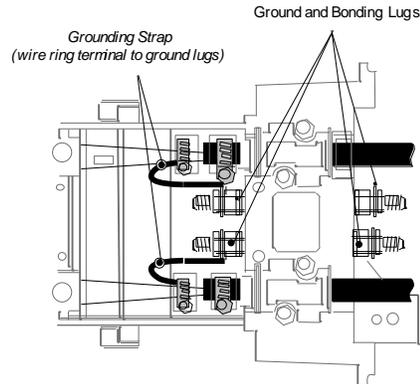

Figure 10 - Grounding and Bonding Terminal Lugs
13.01 Terminate the ring terminal of the bond wires (previously installed) on each of the cables to a common ground terminal on the inside of the center section. See **Figure 10**. Tighten the ground terminal hex nuts securely.
13.02 Terminate the bond strap ring terminal from the cable to be isolated to an inside ground terminal. Tighten the ground terminal hex nuts securely. See **Figure 10**.